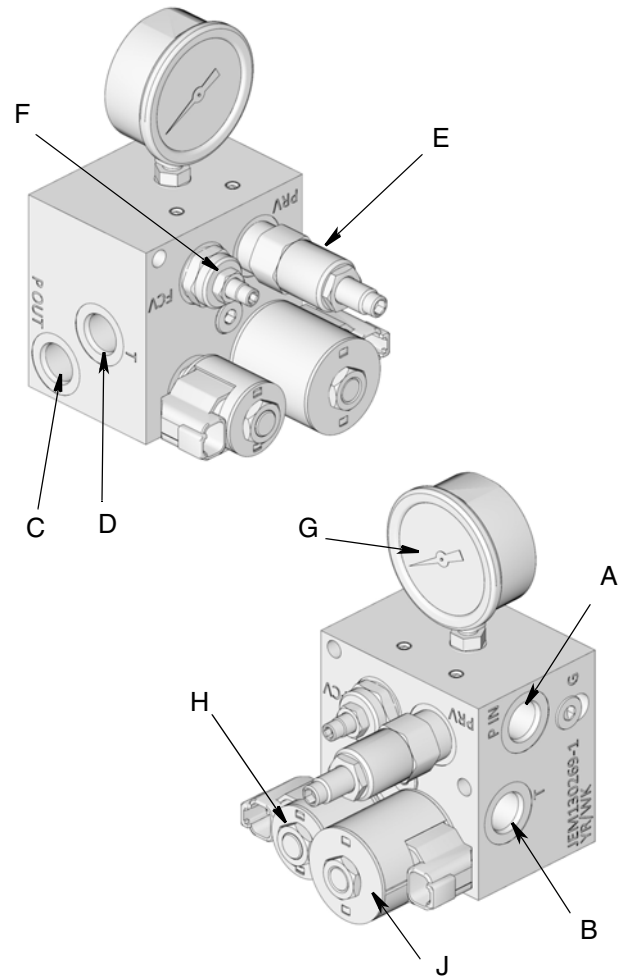
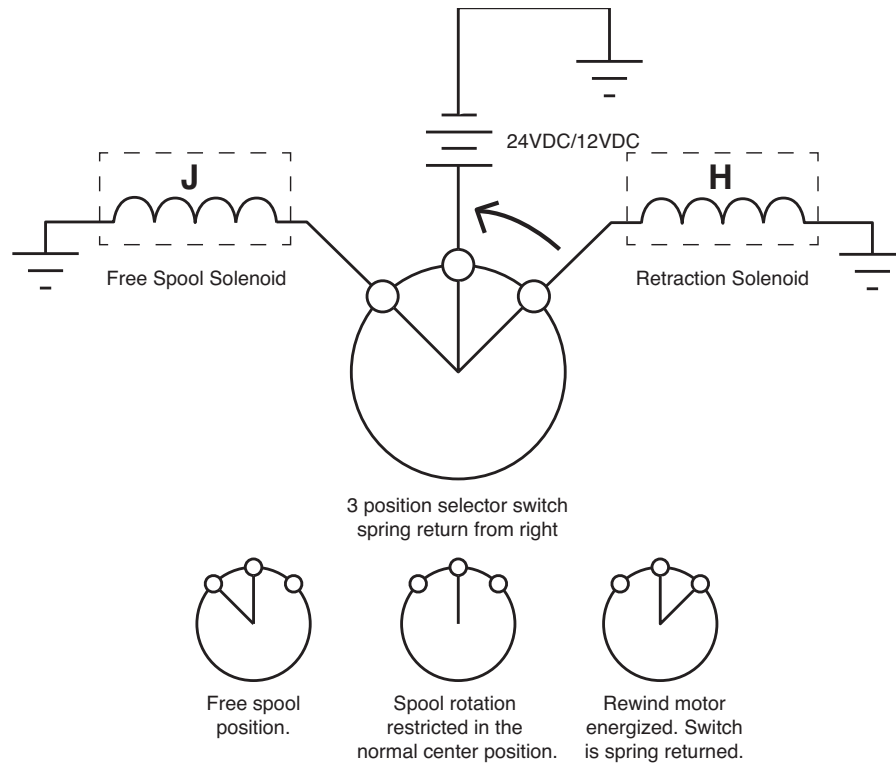
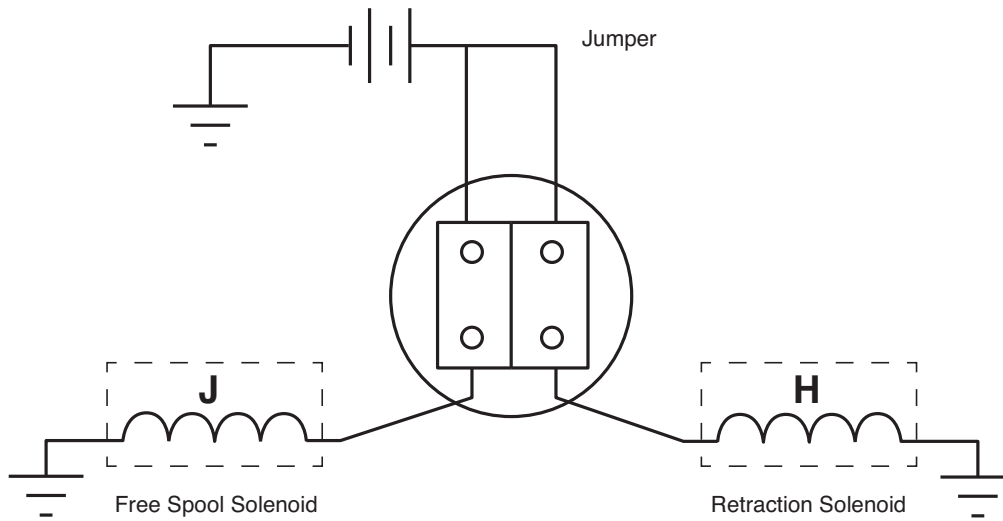

FIG. 19
FIG. 20
FIG. 21
1. Install hydraulic control (Graco PN 127224 - 12V or 127225 - 24V. See Miscellaneous Kits, page 41) (FIG. 19).
- a. Connect hydraulic power supply to hydraulic pressure inlet (A).
- b. Connect tank return hose to tank port (B).
- c. Connect hydraulic pressure outlet (C) to proper hydraulic motor inlet on reel for the desired rotation direction.
- d. Connect tank return (D) to remaining port on reel motor.
2. Wire switch to solenoids on hydraulic control module as shown in (FIG. 20 and FIG. 21).
- Hydraulic Motors - Reverse input and return to tank lines on hydraulic motor (FIG. 19, page 26).